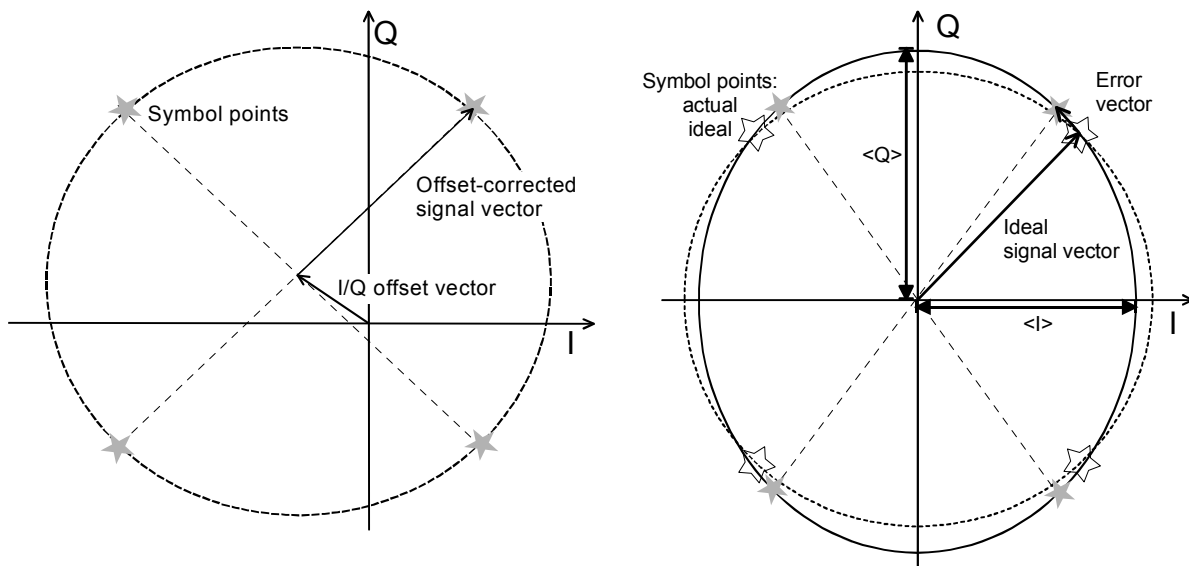

Fig. 4-13 Modulation errors in the I/Q constellation diagram
- I/Q Origin Offset** Origin offset in the I/Q constellation diagram reflecting a DC offset in the baseband signal (see Fig. 4-13 on page 4.37 and Equation 4-1). The origin offset corresponds to a RF carrier feedthrough in spectral representation.
- I/Q Imbalance** Amplitude difference between the in-phase (I) to the quadrature (Q) components of the measured signal, normalized and logarithmized (see Fig. 4-13 on page 4.37 and Equation 4-2). The I/Q imbalance corresponds to an unwanted signal in the opposite sideband in spectral representation.
Origin offset *Fig. 4-13* is an idealized representation of the modulation errors where the effects of a pure origin offset (left diagram) and of a pure I/Q imbalance (right diagram) are completely disentangled. The I/Q offset in dB is the logarithmic ratio of the I/Q offset vector (i.e. the estimated DC-offset of the measured signal) to the average offset-corrected signal vector:
Note: *The I/Q imbalance is always calculated without origin offset regardless of the Analysis Mode set (see Fig. 4-13). Conversely, the waveform quality is always calculated with origin offset.*